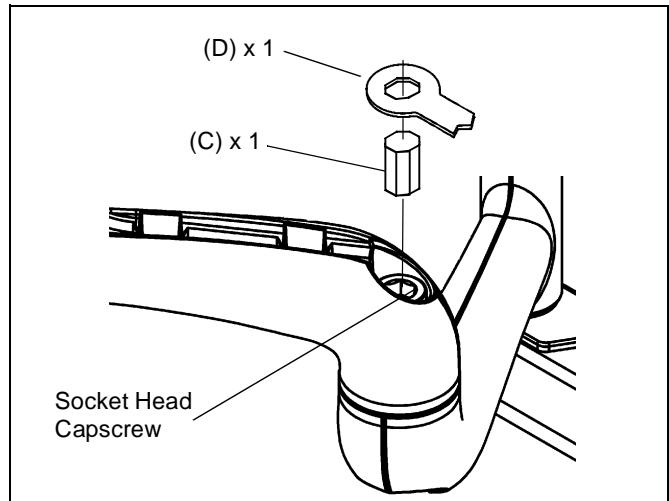

Figure 11
1. Locate the adjustment bar (C) and adjustment wrench (D).
2. Place adjustment bar (C) into socket head cap screw located at swing arm pivot point. (See Figure 11)